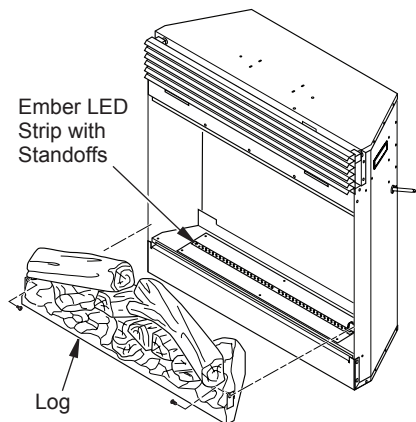

Figure 9 - Removing Log and Ember LED
3. Remove screws from each side of log that holds log to log base and remove log (see Figure 9).
2. Locate ember LED strip (see Figure 9). Disconnect wire (right side)